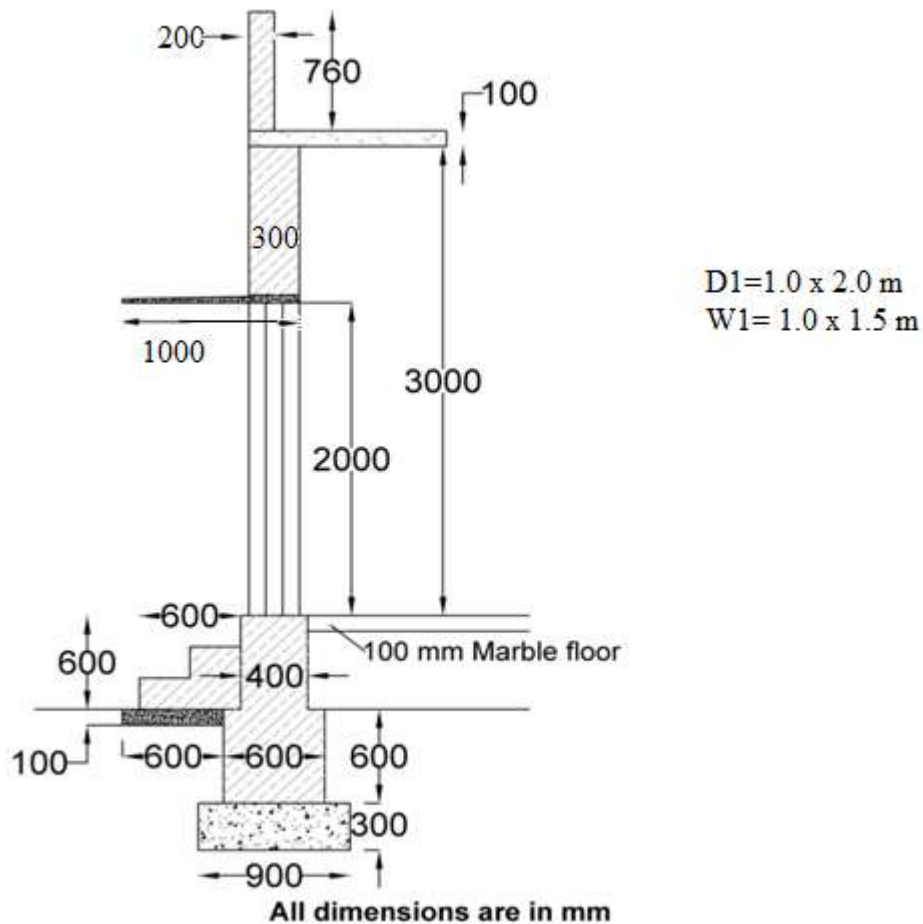

Figure-1
3. Two room building plan and cross section is shown in Figure-1. From the drawings calculate quantities by using Long and short wall method